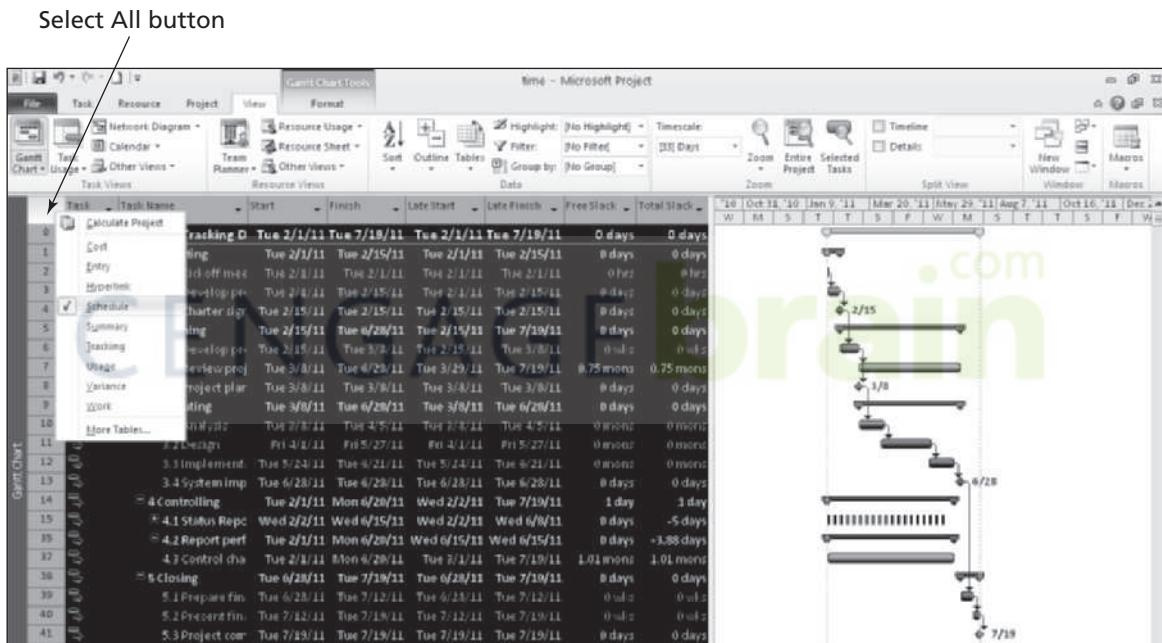

FIGURE A-36 Schedule table view
2. *Reveal all columns in the Schedule table.* Move the split bar to the right until you see the entire Schedule table. Your screen should resemble Figure A-36. This view shows the start and finish (meaning the early start and early finish) and late start and late finish dates for each task, as well as free and total slack. Right-click the **Select All** button and select **Entry** to return to the Entry table view.